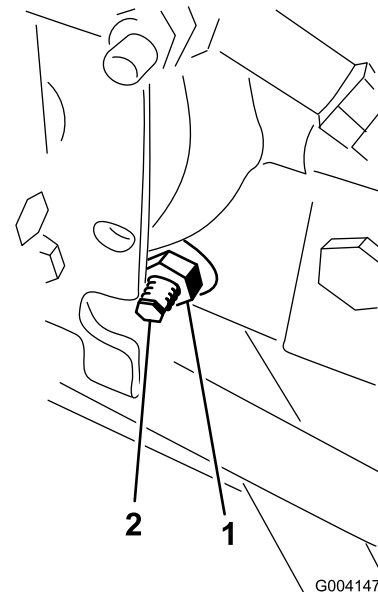

Figure 49
3. On the right side of the hydrostat, loosen the locknut on the traction-adjustment cam (Figure 49).